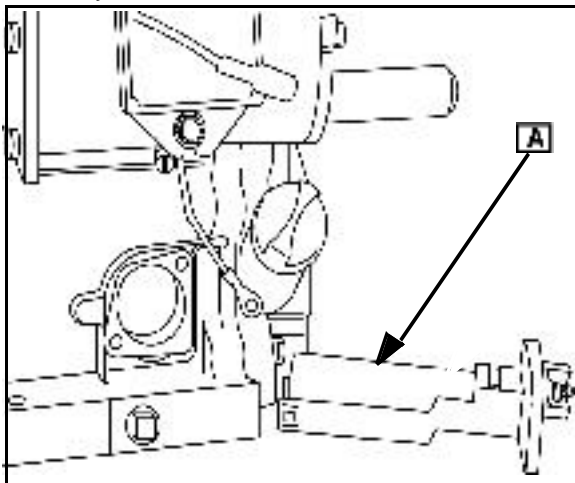

Fig. 29
2. Remove float assembly ([A] Fig. 29) from cylinder.
Refer to Fig. 29
2. Install new gasket ([A] Fig. 29) with sealant bead toward cylinder and float assembly.